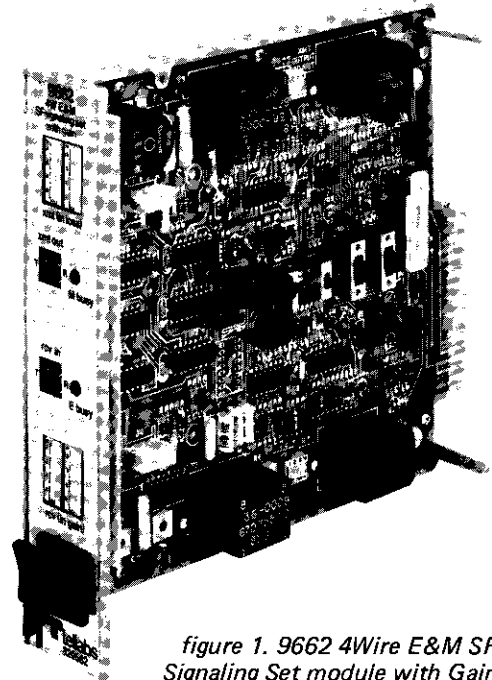

figure 1. 9662 4Wire E&M SF Signaling Set module with Gain
1.01 The Tellabs 9662 4Wire E&M SF Signaling Set module with Gain (figure 1) provides signaling and transmission interface between a 4wire transmission facility and a 4wire trunk circuit. The 9662 provides level control in both the transmit and receive paths, bidirectional amplitude equalization, and full-duplex signaling conversion between SF signaling on the transmission facility and the E&M signaling of a trunk circuit associated with a two-way dial/supervisory telephone circuit. Conventional 2600Hz SF tone is standard; other frequencies are optionally available. The 9662 differs from conventional 4wire E&M SF signaling sets in that it contains integral amplifiers to accommodate a variety of facility interface levels.